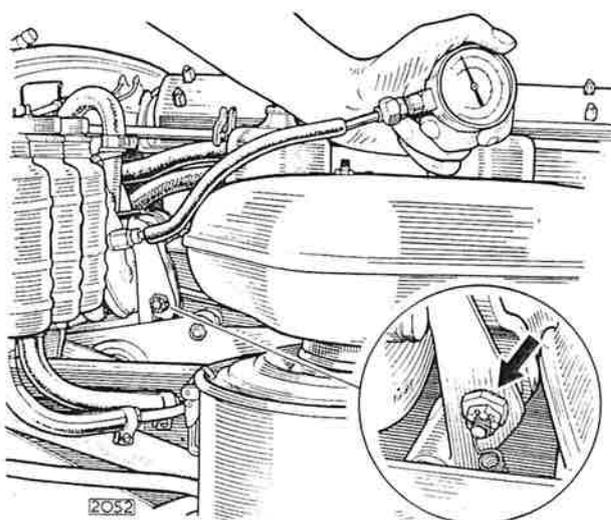

Fig. 29. Checking the servo with a vacuum gauge, Churchill tool No. J12—Gauge and Adaptor J12/1—Pipe and Adaptor, inset shows eccentric adjusting nut
(i) Connect a vacuum gauge (reading 0–30 ins. (0–76.20 cm.) of mercury) to the union on the valve housing, Fig. 29.
**Remedy:** Remove the return spring and release the locknut, apply a spanner to the hexagon on the eccentric bush, Fig. 29, turn until required vacuum is obtained. This will be when the air valve is closed and the vacuum valve fully open. Tighten the locknut, apply the brakes and check. Release the pedal pressure completely; vacuum valve should now be closed and the air valve open with the gauge registering zero. Brakes should be free. If the brakes are not free this indicates that the vacuum valve is not completely closed. Release the locknut and adjust the eccentric in the opposite direction until the gauge registers zero and the brakes are free.